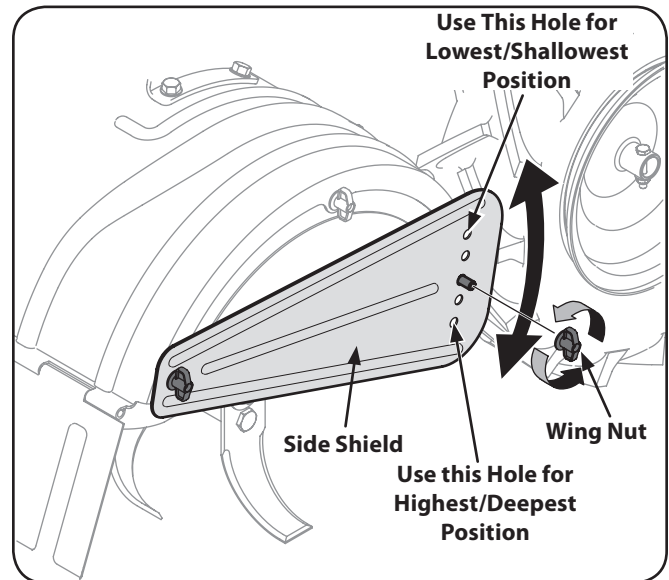

Figure 1-2
2. When breaking up sod and for shallow cultivation, use the setting which gives 1" of tilling depth (second hole from the top). Place the side shields in their lowest position. See Figure 1-2.
7. To adjust the side shields, remove the wing nuts. Move the side shield to the desired position and replace the wing nuts. Tighten securely. See Figure 1-2.